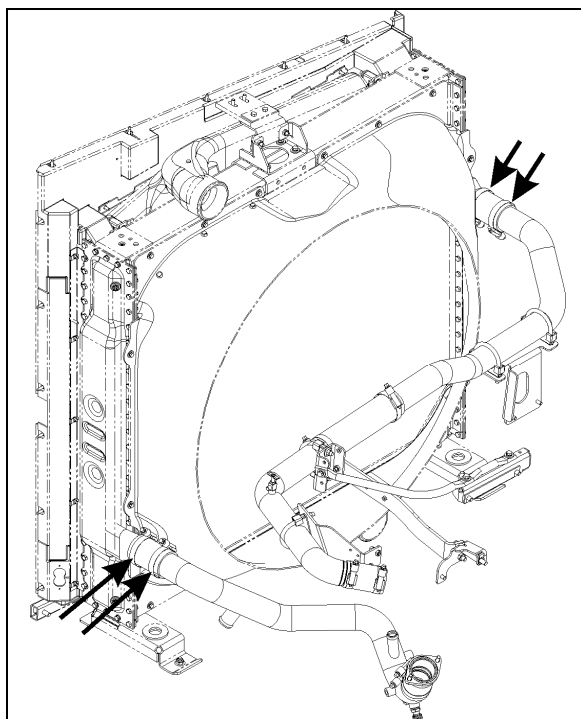

FIGURE 12: RADIATOR HOSE CLAMPS
- Remove clamps and then break hoses from the front coolant and charge air pipes (Fig. 12 & 13).
- Remove rear coolant and charge air hose clamps then break hoses loose (Fig. 12 & 13).